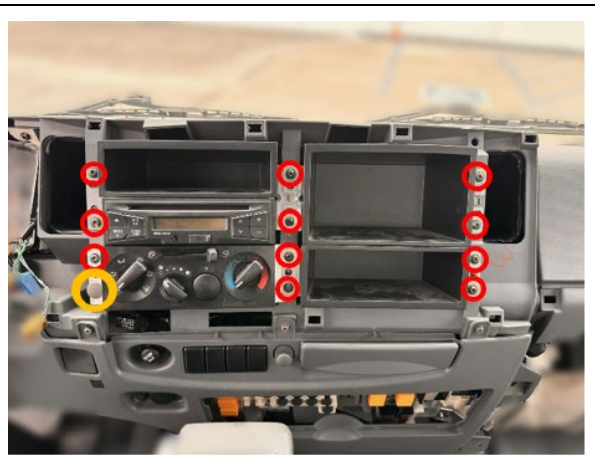

Figure 92
98. Install the cluster compartments, radio and A/C control panel removed in Step 55 (eleven (11) T25 screws and one (1) clip for the A/C control panel). If the vehicle is equipped with an aftermarket radio, follow the manufacturer's instructions in installing the radio. (See Figure 92.) **Torque the screws to 2.9 N•m (26 lb•in)**